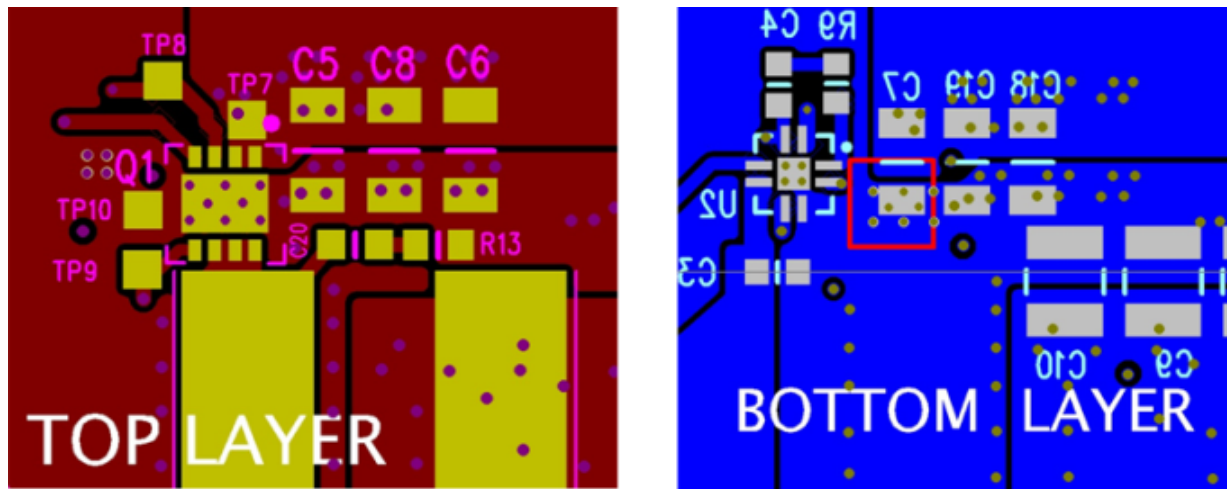

Figure 33. Recommended PCB Layout (Top Down)
- The placement of the input capacitors relative to the Power Block's VIN and PGND pins should have the highest priority during the component placement routine. It is critical to minimize these node lengths. As such, ceramic input capacitors need to be placed as close as possible to the VIN and PGND pins (see Figure 33). The example in Figure 33 uses 6 × 10 μF ceramic capacitors (TDK Part # C3216X5R1C106KT or equivalent). Notice there are ceramic capacitors on both sides of the board with an appropriate amount of vias interconnecting both layers. In terms of priority of placement next to the Power Block, C5, C7, C19, and C8 should follow in order.
- The switching node of the output inductor should be placed relatively close to the Power Block VSW pins. Minimizing the node length between these two components will reduce the PCB conduction losses and actually reduce the switching noise level. In the event the switch node waveform exhibits ringing that reaches undesirable levels, the use of a Boost Resistor or RC snubber can be an effective way to easily reduce the peak ring level. The recommended Boost Resistor value will range between 1.0 Ohms to 4.7 Ohms depending on the output characteristics of Driver IC used in conjunction with the Power Block. The RC snubber values can range from 0.5 Ohms to 2.2 Ohms for the R and 330 pF to 2200 pF for the C. Please refer to TI App Note SLUP100 for more details on how to properly tune the RC snubber values. The RC snubber should be placed as close as possible to the Vsw node and PGND (see Figure 33). ⁽¹⁾
(1) Keong W. Kam, David Pommerenke, "EMI Analysis Methods for Synchronous Buck Converter EMI Root Cause Analysis", University of Missouri – Rolla
- Use the smallest drill size allowed in your design. The example in Figure 33 uses vias with a 10 mil drill hole and a 16 mil capture pad.